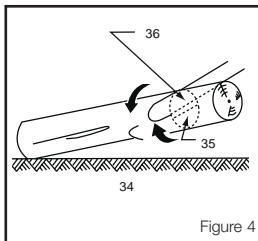

Figure 4
2. When the log is supported on one end, cut 1/3 of the diameter from the underside (under buck). Then make the finished cut by over bucking to meet the first cut. (Fig 4)